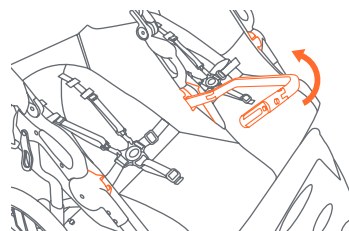

Fig. 10b
- To detach bumper bar, press the release button on the bottom of the bar and pull bar out of the anchor. Swing the bar out to access the seat (Fig. 10b).